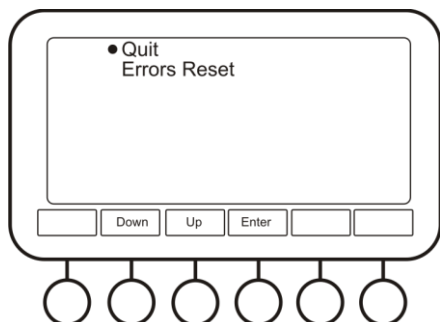

Figure 7. Current Errors menu
5.9.3.1 **Current Errors** (fig. 7). This option allows user to view and reset the list of active errors. See **6.3**, for a list of possible errors.